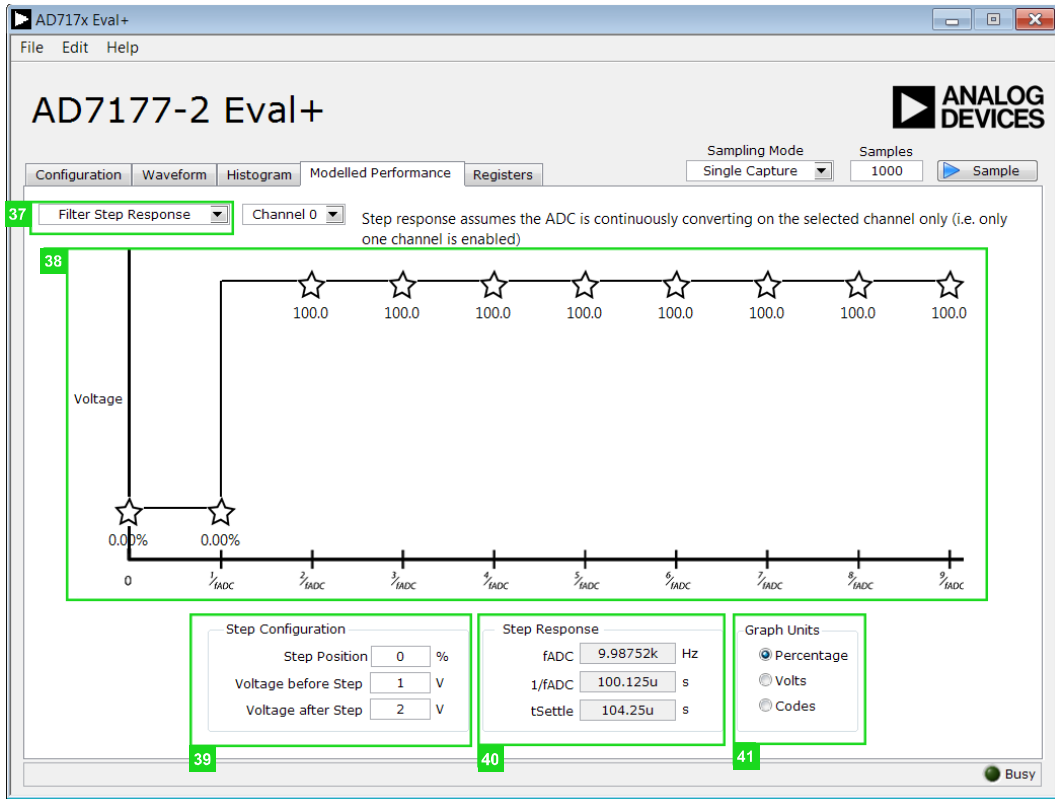

Figure 21. Filter Step Response of the AD717x Eval+ Software
The **Filter Step Response** dropdown list (37) allows the user to switch between the three sections of the **Modelled Performance** tab. Figure 21 shows this tab when **Filter Step Response** is selected from the dropdown list.